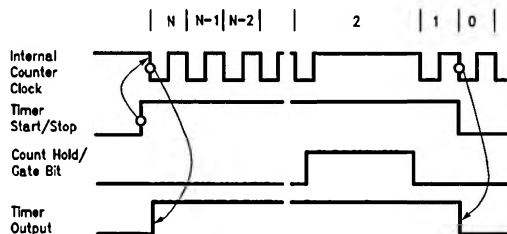

FIGURE 8. Typical Waveforms for Timer Mode 0
of the input data registers are loaded into the timer. The output will stay high until the counter reaches zero. At zero the output is reset. The result is an output pulse whose duration is equal to the input clock period times the count value (N) loaded into the input data register. This is shown in *Figure 8*.